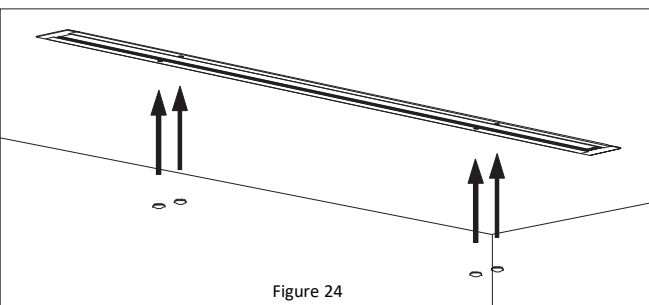

Figure 24
7. Install rubber plugs to hide the screw heads. *See Figure 24.*